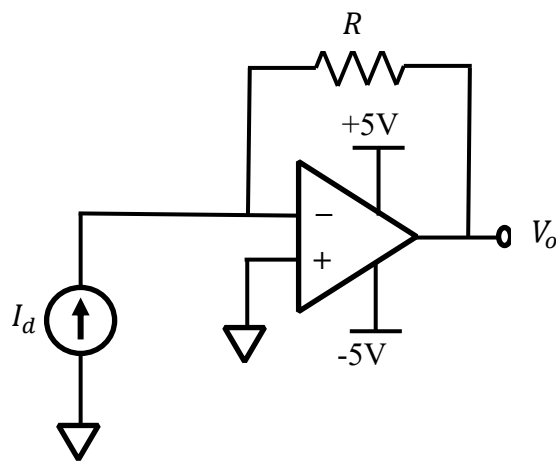

Figure 4.6 – Current to voltage converter using an op-amp.
A. Analyze the circuit in Figure 4.6.